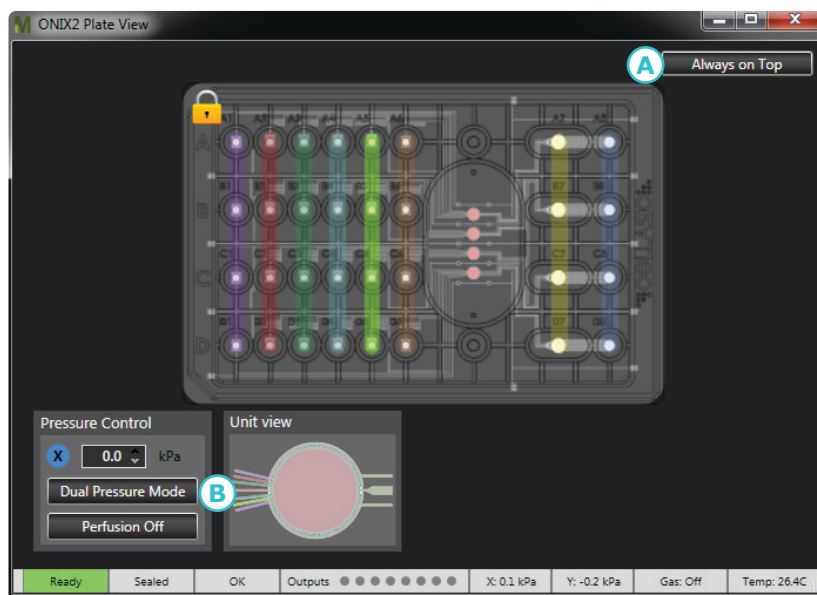

Figure 36. Mini-view on top
1. If desired, click **Dual Pressure Mode** (B) in Figure 36) to activate secondary pressure.